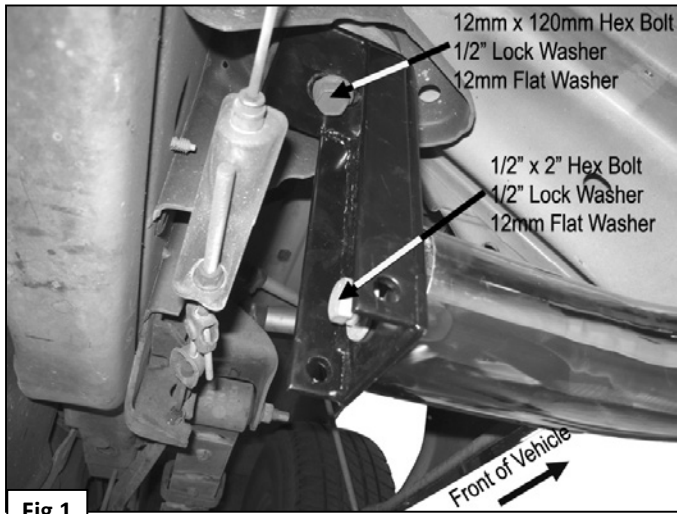

Fig 1
- 4.** Partially attach front and rear Mounting Brackets from body mounts using the included (2) 12mm x 120mm Hex Head Bolts, (2) ½" Lock Washers, and (2) 12mm Flat Washers **(Figure 1 & 2)**. **NOTE:** Shorter Mounting Brackets mount toward the front of the vehicle, longer Mounting Brackets mount toward the rear.
- 5.** Position Driver Sidebar up to Mounting Brackets, and attach it using the included (2) ½" x 2" Hex Head Bolts, (2) ½" Lock Washers, and (2) 12mm Flat Washers **(Figure 1 & 2)**. Tighten all hardware at this time.